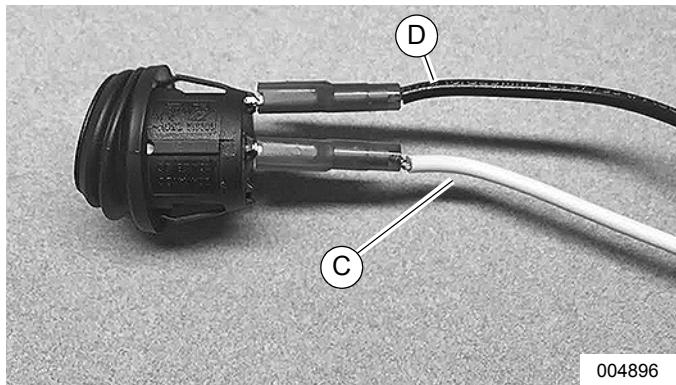

Figure 18 - Crimped Rocker Switch Wires
4. See **Figure 18**. Connect crimped ends of 36 in. (91 cm) wire (C) and black wire from E-stop harness (D) to rocker switch terminals at customer access cover. Verify there is enough insulation removed to properly connect and disconnect wires.